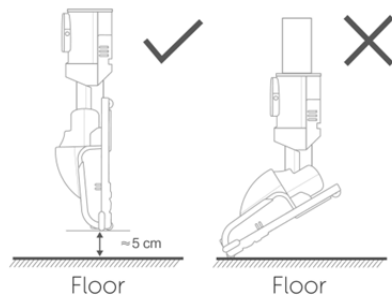

Fig. 6
1. Choose a suitable location for the wall bracket away from areas where it will get wet or knocked and close to a socket outlet. Check that the charge cable will reach the mains socket (180cm distance max) and that there is sufficient space above and below the bracket (approx.125cm below) for the fully assembled vacuum cleaner to be inserted. No part of the vacuum cleaner should touch the floor when fitted into the bracket (fig 6).